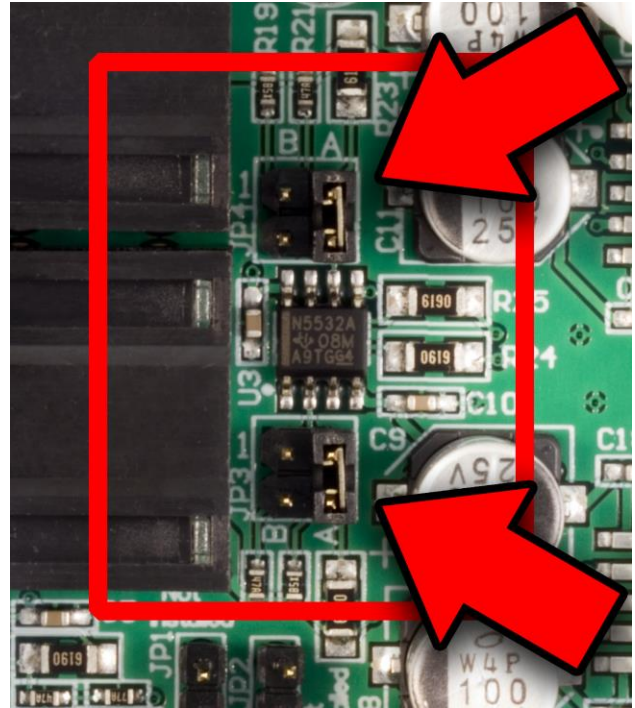

Figure 4 - *HPA2™* Gain is 0 dB
- **Gain = 0 dB** - see **Figure 4**